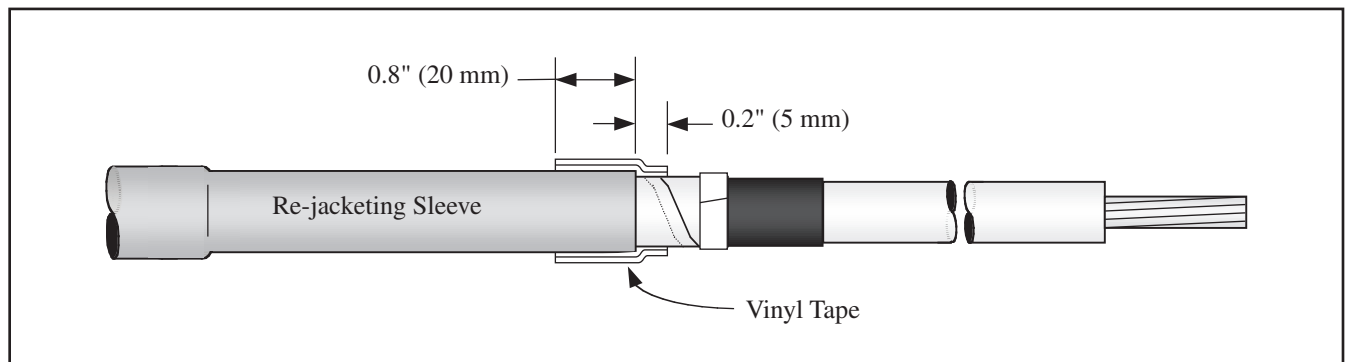

Figure 12
- 4.3 Secure re-jacketing sleeve with two half-lapped layers of vinyl tape (*Figure 12*). Start taping 0.8" (20 mm) over re-jacketing sleeve, extend 0.2" (5 mm) over cable metallic shield and return to starting point.